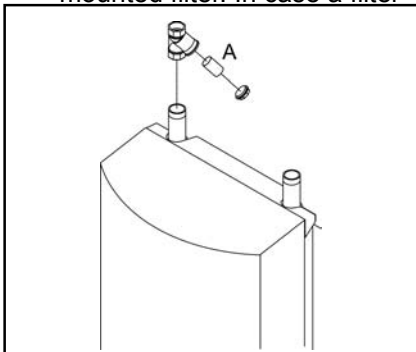

Fig. 18 0627117
5. Remove the filter (A, Fig. 18) and place it in a descaling solution.